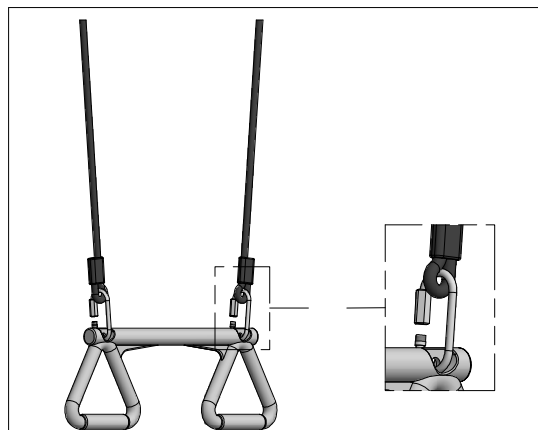

FIG. 3
ATTACH TRAPEZE TO (2) UB CHAINS USING (2) FA QUICK LINKS. (FIG. 3)